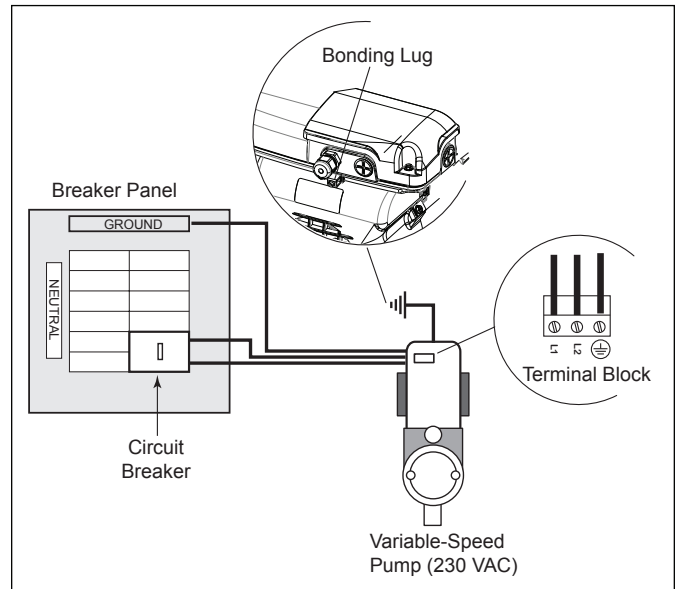

Figure 3. Bonding the Motor, Regal Beloit Motor
- The motor frame must be bonded to a reliable grounding point using a solid copper conductor, No. 8 AWG or larger. In Canada, No. 6 AWG or larger must be used. If the pump is installed within five (5) feet (1.5 m) of the inside walls of the swimming pool, spa, or hot tub, the motor frame must be bonded to all metal parts of the swimming pool, spa, or hot tub structure and to all electrical equipment, metal conduit, and metal piping within five (5) feet (1.5 m) of the inside walls of the swimming pool, spa, or hot tub.
- Bond the motor using the provided external lug. See Figure 3.